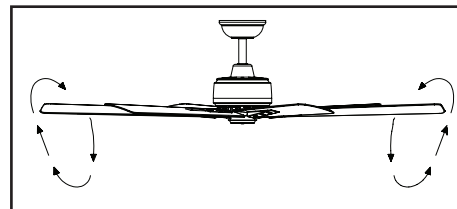

Figure 25
**Warm weather - (Forward)** A downward air flow creates a cooling effect as shown in Figure 25. This allows you to set your air conditioner on a higher setting without affecting your comfort.